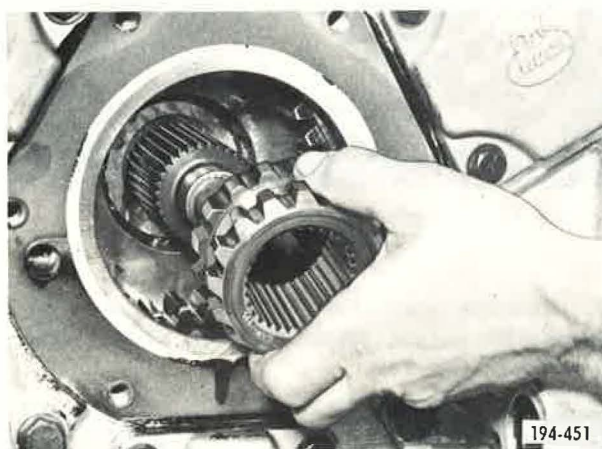

Figure 5. Removing Fourth/Fifth Speed Sliding Clutch
7. Remove fourth/fifth speed sliding clutch from mainshaft. See Figure 5.